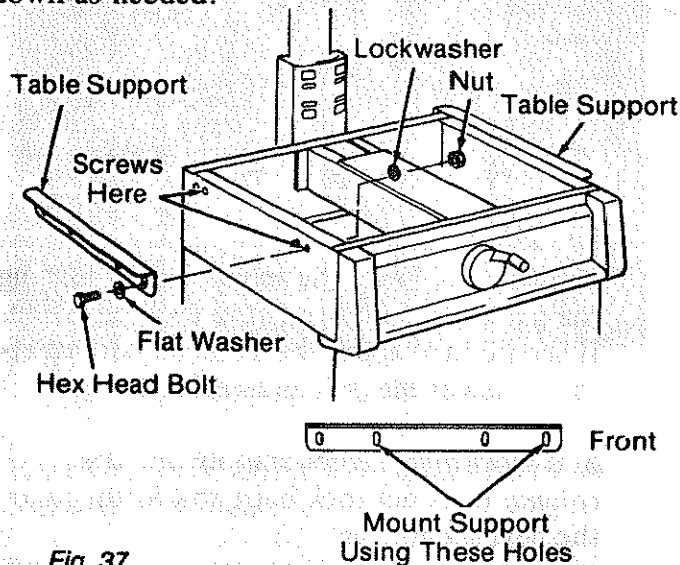

Fig. 37
3. Attach a *table support* to each side of the *saw* using the four hex head bolts and flat washers. (Figure 37) Put the bolts through the center of the enlarged holes in the *table supports* so that the *supports* may slide up or down as needed.